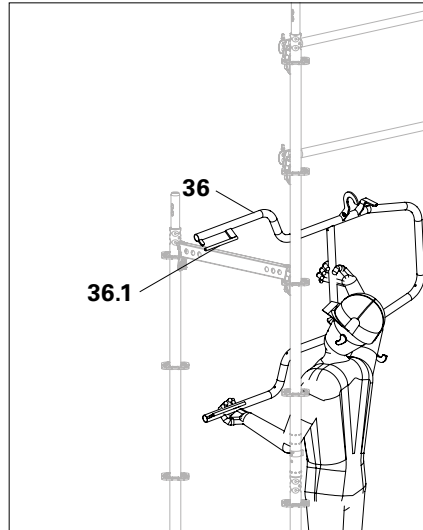

Fig. A5.13a
1. Suspend the end guardrail in advance (36) above the crossbar. The pegs (36.1) must point towards the outer side of the scaffolding. (Fig. A5.13a)